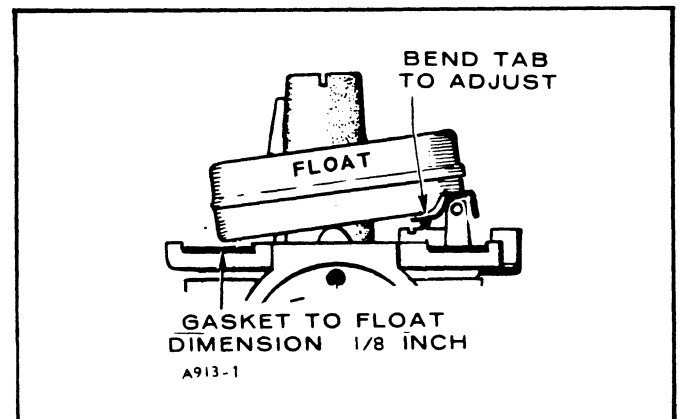

FIGURE 6. ADJUSTING FLOAT LEVEL
or is otherwise damaged, replace it. It should also fit freely upon its pin without binding. Invert the carburetor body and measure the float level per Figure 6. Check the choke and throttle shafts for excessive side play.
6. Check the float level with the carburetor casting inverted. See Figure 6.
To check float level, remove the entire main fuel adjustment assembly from the float bowl (unscrew large nut from float bowl - Figure 6). The proper level from the float to the gasket should be 1/8 inch. The float tab should just touch the fuel inlet valve and not compress the inlet valve spring. Adjust by bending the tab on the float.